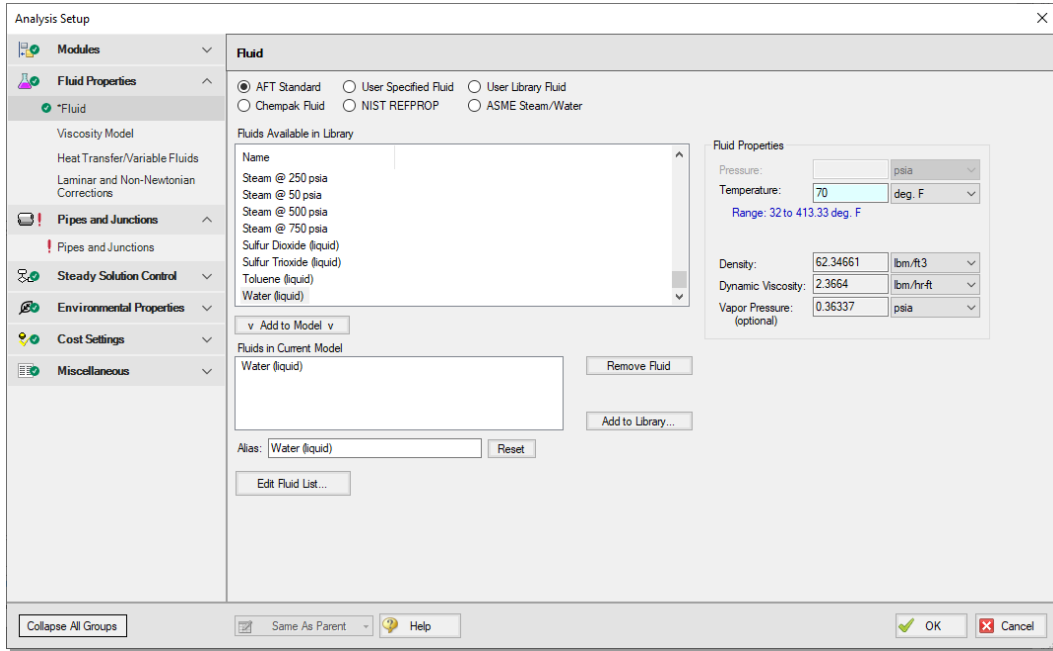

Figure 5.1 Fluid panel with Water (liquid) selected and temperature specified
3. On the right, enter a temperature of 70 deg. F (see Figure 5.1)